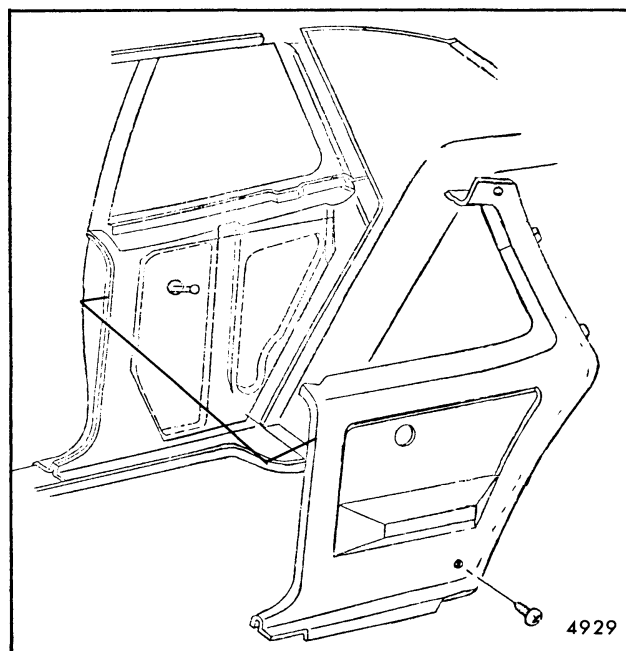

Fig. 6-8-Quarter Trim Assembly Attachment - "X" Styles
5. On "X" styles remove attaching screw and disengage two (2) tabs at upper rear of quarter trim panel (see Fig. 6-8).